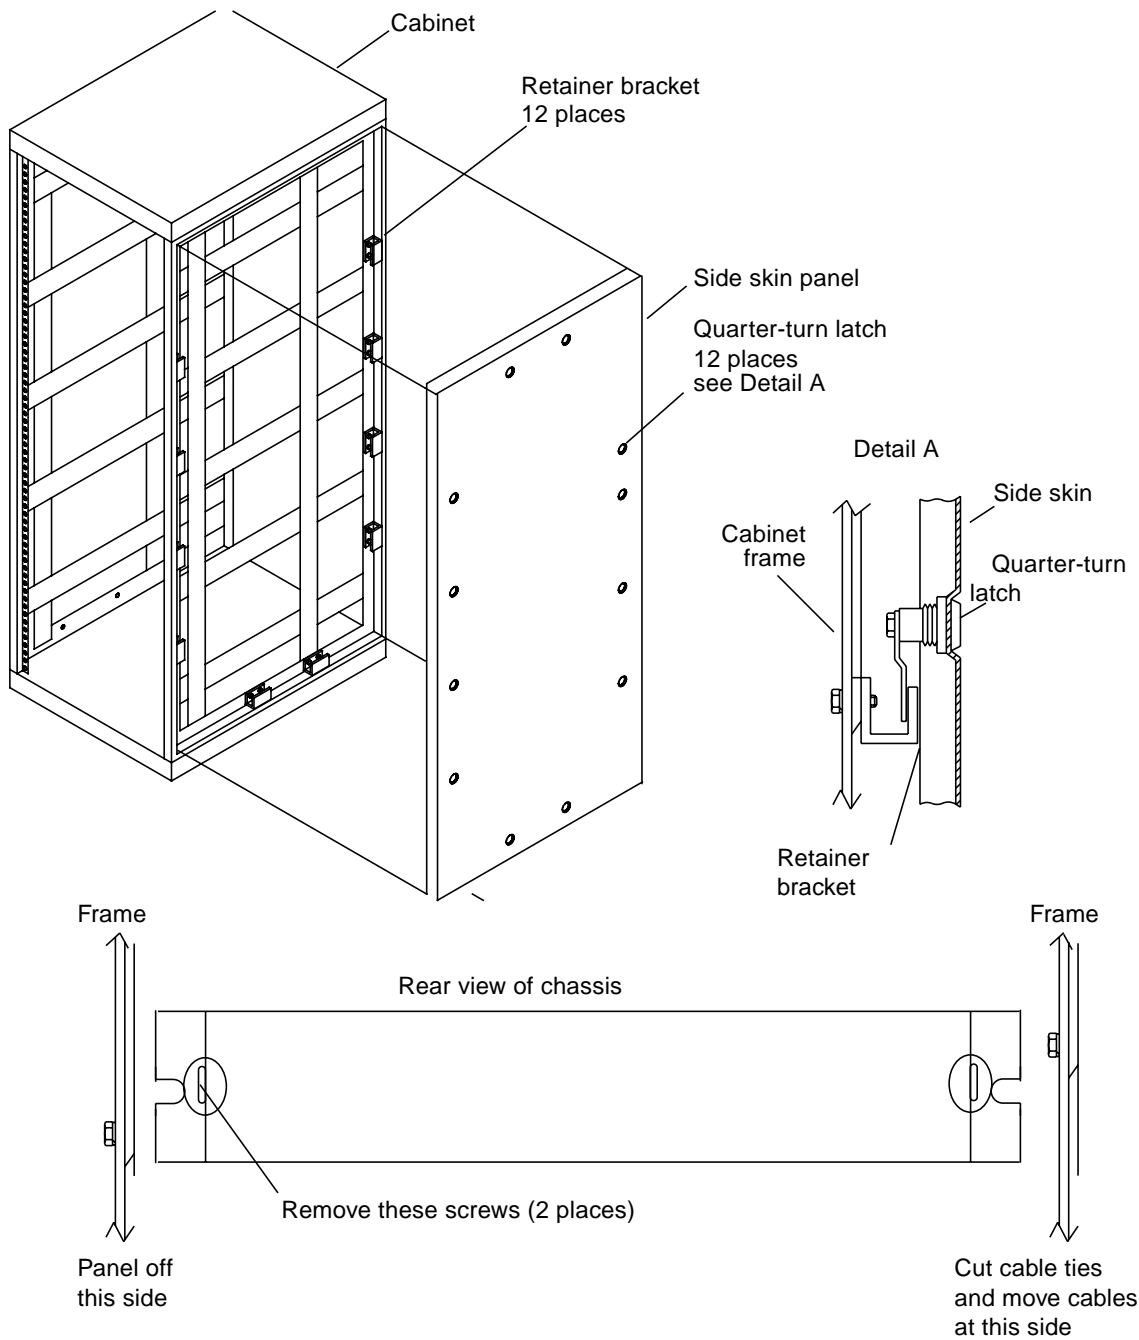

FIGURE 6-22 HDSA Power Supply Module Chassis Removal
2. **Go to the right side of the cabinet and remove the side panel door. Use a large flat blade screw driver to turn each release latch clockwise one quarter turn. See FIGURE 6-22.**
4. **Remove the screws shown in FIGURE 6-22. To remove the screw on the right side, cut the cable ties holding cables to the rail and move the cables out of the way. You will need to use a short “stubby” Philips screwdriver to remove the righthand screw.**